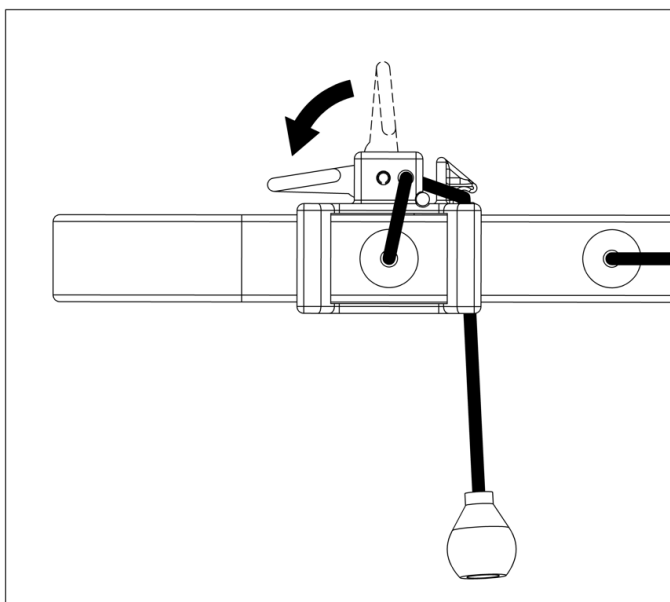

Fig 2. Pull cord tight, feed through hole in L.T.L. and lock down lever.
9. Tie off the cord and lock the L.T.L. (Figs 2 & 3)
10. Tie off the cord and lock the L.T.L. (Figs 2 & 3)